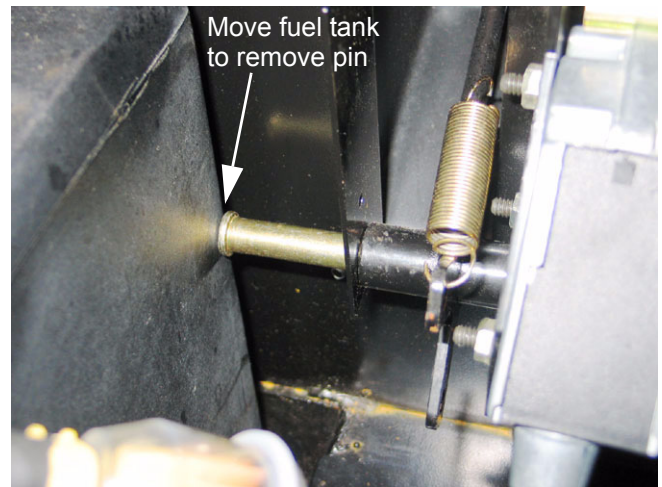

Figure 4.46
- 4.46. The clevis pin that holds the differential lock control lever to the frame cannot be removed with the fuel tank secured in position. See Figure 4.46.